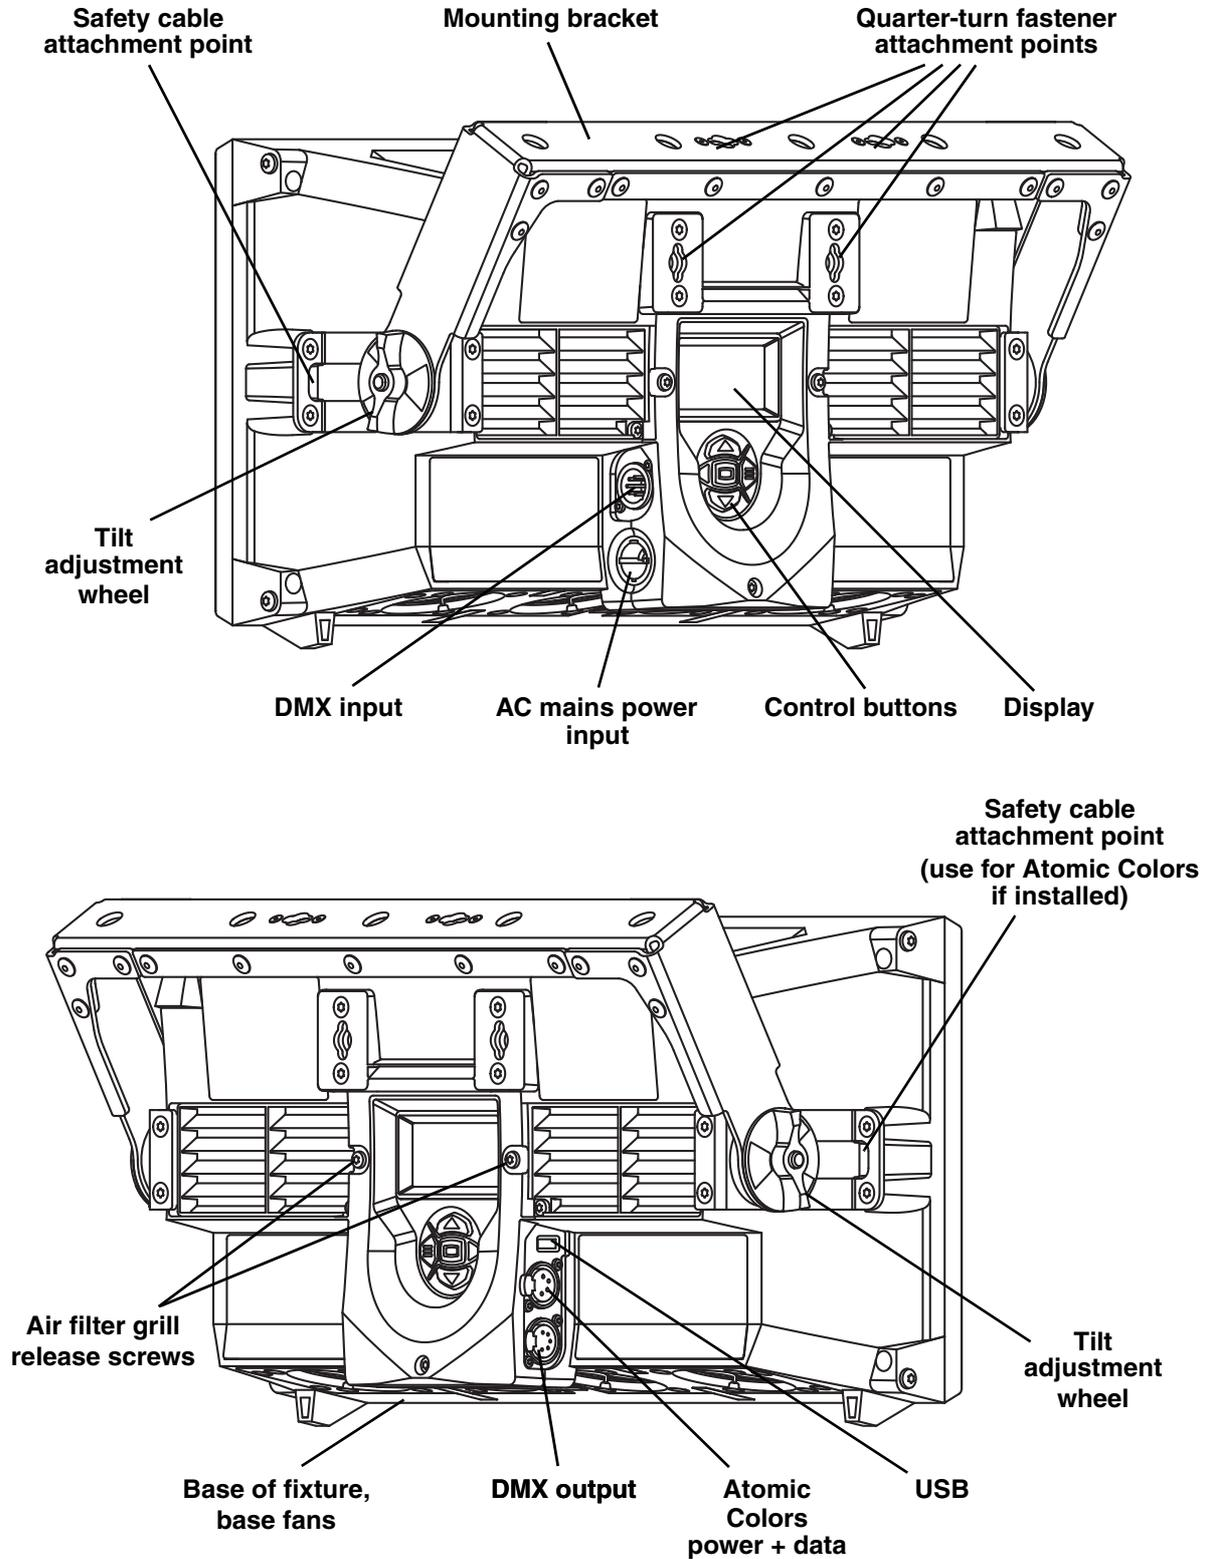

Figure 1: Fixture overview
3. If the fixture may fall and cause injury or damage if the primary attachment fails, attach an approved safety cable to a secure anchoring point and to one of the safety cable attachment points on the fixture (see Figure 1 on page 7).
4. If necessary, adjust the orientation of the fixture by loosening the tilt adjustment wheels (see Figure 1 on page 7), adjusting the aim of the fixture and retightening the tilt adjustment wheels. Apply firm pressure by hand only – do not use tools to tighten the tilt adjustment wheels.
5. If you have fastened the omega bracket to the fixture's mounting bracket, adjust the orientation of the fixture to obtain the desired aiming by loosening the tilt adjustment wheels (see Figure 1 on page 7), adjusting the aim of the fixture and retightening the tilt adjustment wheels.